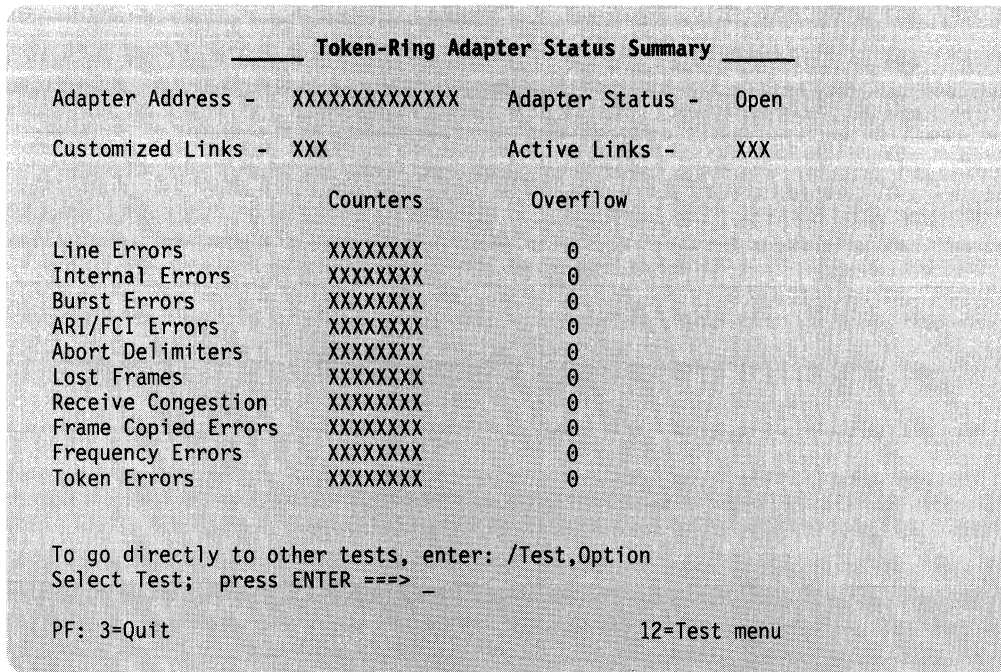

Figure 3-26. Example of a Token-Ring Adapter Status Summary Panel
**Option 2:** Displays the panel shown in Figure 3-26 on page 3-37.
**Test 9, Option 2:** Figure 3-26 shows an example of the Token-Ring Adapter Status Summary panel.